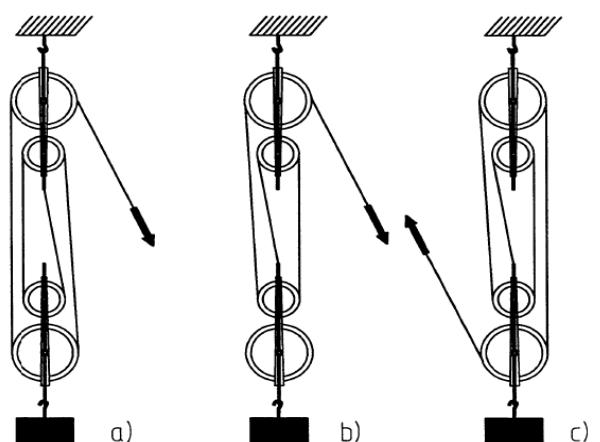

Fig. 2: Experimental setup
- Place the dynamometer on the demo board and determine the weight force $F_G = F_2$ for the loaded weight holder, including a block and tackle with 2 pulleys; note F_2 (1)
- Place the cord for the tackle over the pulleys and set up the experiment as shown in Fig. 2 (length of the cord with two loops approx. 160 cm); Compare F_1 with F_2 (2)
- Mark the position of the weight holder (top point of the hook) and the dynamometer (hook of the pull cord - see Fig. 2) with arrows of different colours.
- Slowly and evenly move the dynamometer towards the bottom right-hand corner of the demo board; measure and record the force. (3)
- Draw the path (lifting height) s_2 for the load and force path s_1 on the demo board; measure and note down s_1 and s_2 (3)
- Repeatedly lift the dynamometer and perform the lifting work with differently directed forces \vec{F}_1 ; observe the dynamometer and note down the observations. (4)